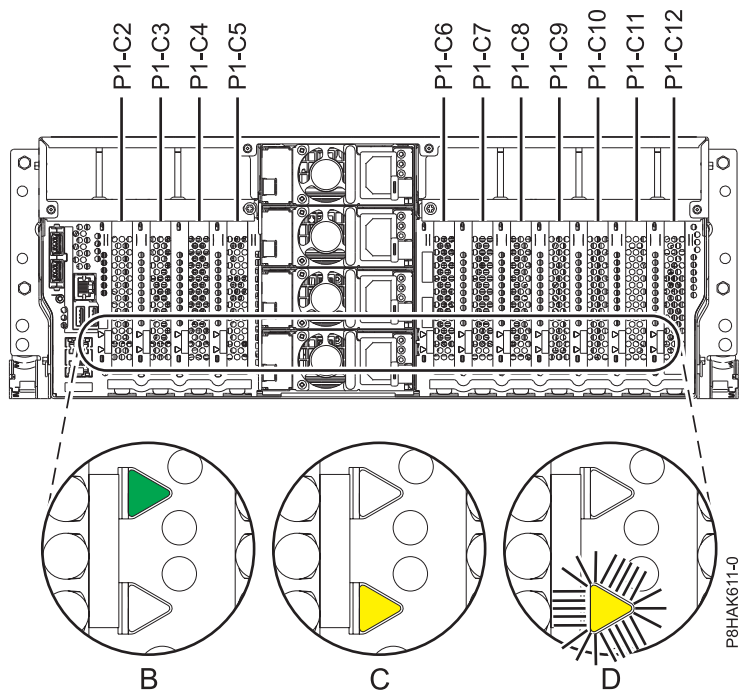
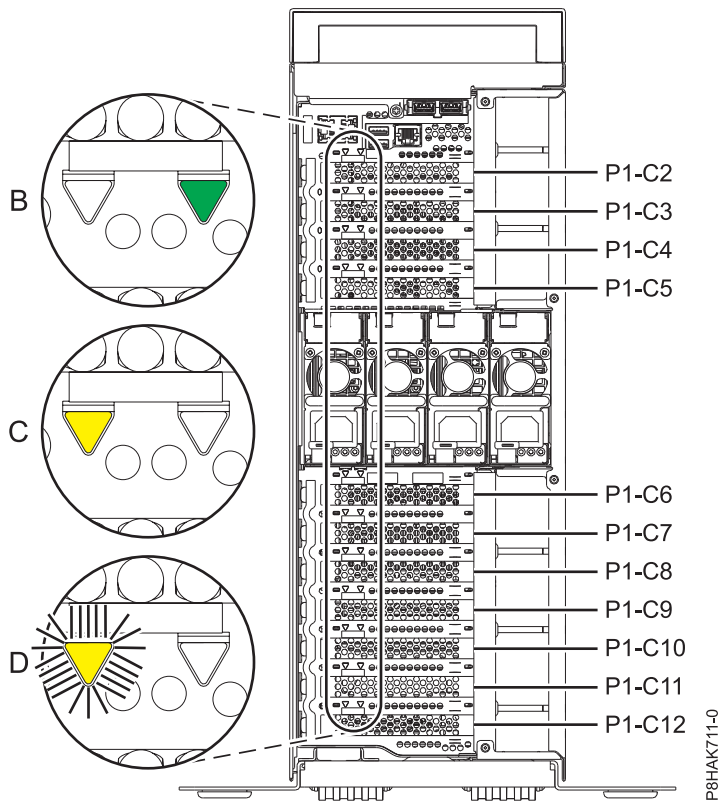

Figure 29. PCIe adapter slot locations and locations of the LEDs in a rack-mounted 8247-42L, 8286-41A, or 8286-42A system
Figure 30. PCIe adapter slot locations and locations of the LEDs in a stand-alone 8286-41A system
1. Familiarize yourself with the locations of PCIe adapter slots and the service indicators for the PCIe adapter that you want to service. The PCIe adapters are installed in the rear of the system. Figure 29 on page 33 and Figure 30 on page 33 show the locations of the PCIe adapters in a system and the locations of the light-emitting diodes (LEDs) for the PCIe adapter.